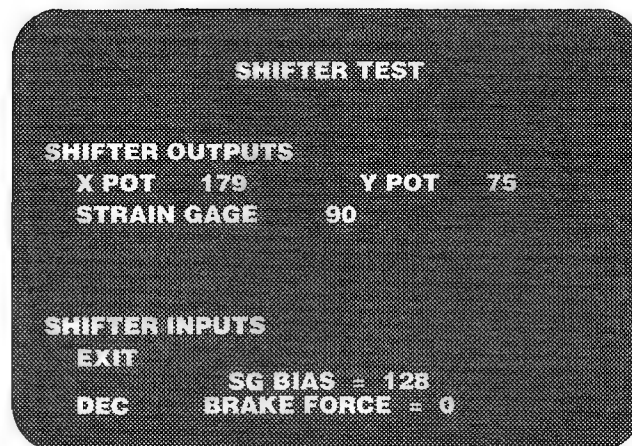

Figure 2-22 Shifter Screen
- Shifter* screen is described below and shown in Figure 2-22. To enter the shifter screen, you must quickly turn the key. If you turn it slowly, you may not be able to enter the test.
you need to repair the shifter or the shifter PCB, see the shifter section in Chapter 3 for further information. The shifter screen is shown in Figure 2-22.
You may have some difficulty entering this screen when you turn the key. If you quickly turn the key, you will see the shifter screen in Figure 2-22. If you hold the key too long, you will see *Shifter Test Quit*. Just try again if this happens if you see this screen.